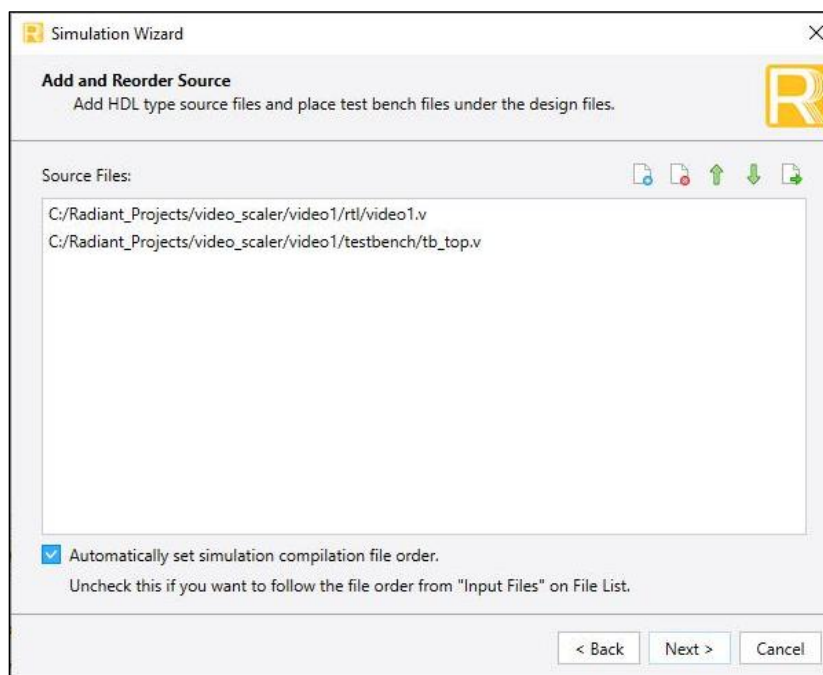

Figure 6.5. Adding and Reordering Source
- Click **Next** to open the **Add and Reorder Source** page as shown in Figure 6.5.